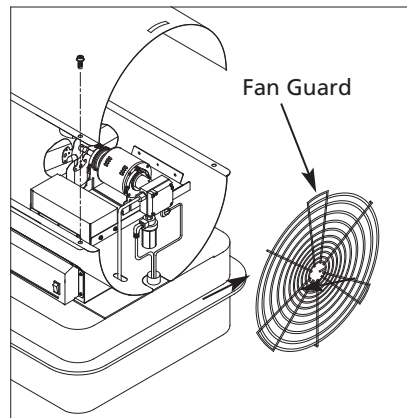

Figure 16 – Remove Fan Guard
- Remove fan guard (See Figure 16).
- Use 3/8" wrench and tighten fuel line (B) at pump and pump fuel filter assembly.